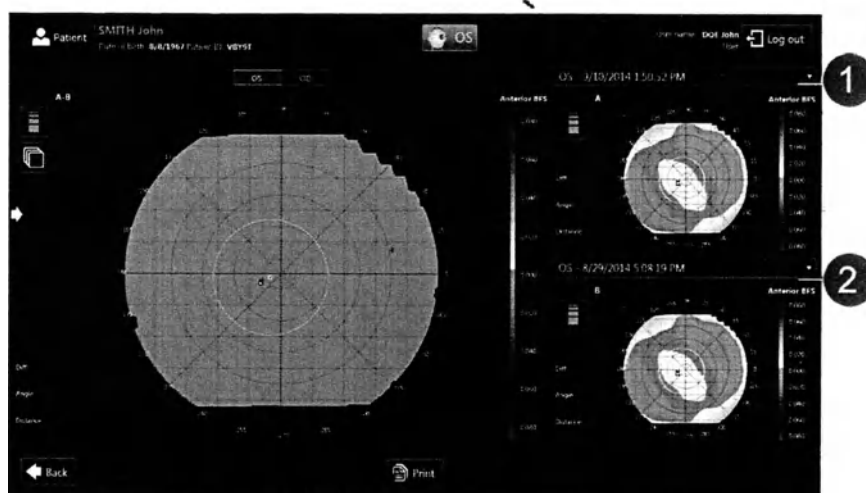

Fig. 95: Comparing ORBSCAN 3 measurements A-B dialog box
3. ➤ From the 'A' drop-down list box (Fig. 95/1), select the first measurement you want to compare and from the 'B' drop-down list box (Fig. 95/2), select the second measurement you want to compare with the first one.
⇒ The differences between both measurements are displayed on the 'A-B' dialog box (Fig. 95/3).